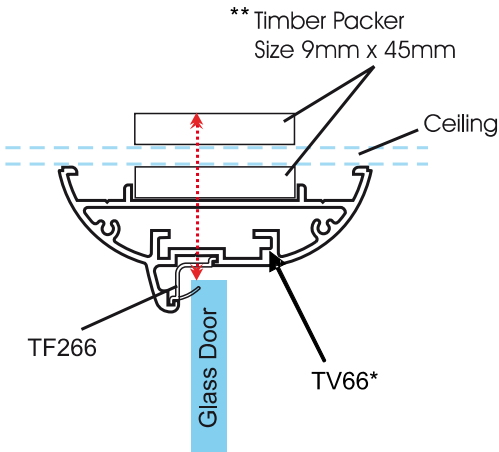

Fig. 4
### Method of build fig.4
- 2 Position the TF36\* door head in the marked area for the door as shown in fig.4 on page 11 using the appropriate packers.
- 3 Position the TV66\* door head in the marked area for the door as shown in fig.4 using the appropriate packers.